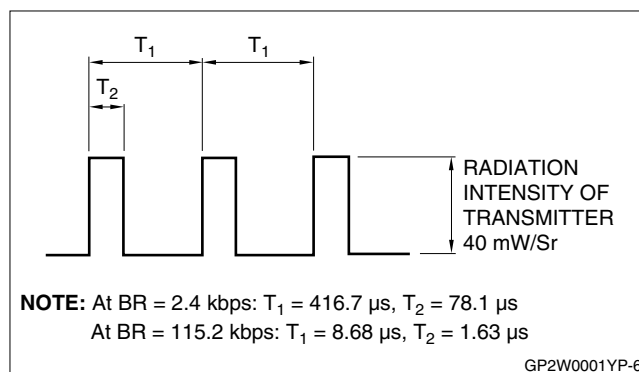

Figure 6. Input Signal Waveform (Detector Side)
- $V_{CC} = 3\text{ V}$, $I_{OL} = 400\ \mu\text{A}$. See Figures 6, 7, and 8.
- BR = 115.2 kbps. See Figures 6, 7, and 8.
- V_{OH} , V_{OL} , t_w , t_r , t_f shall be satisfied at $\phi \leq 15^\circ$. See Figures 6, 7, and 8.